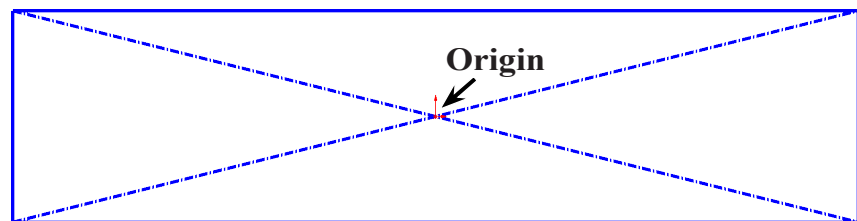

Fig. 2
Step 4. Sketch center rectangle at the **Origin** , **Fig. 2**.
Step 5. Click **Smart Dimension**  (S) on the Sketch toolbar.